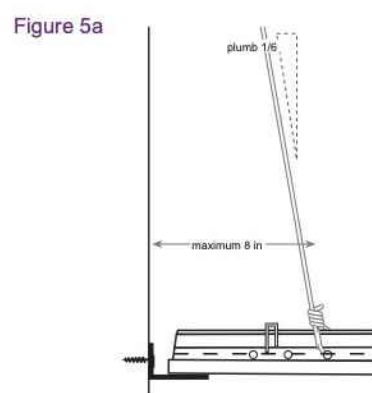

Figure 5b • Countersloping
- Hanger and perimeter wires must be plumb within 1/8 unless (Figure 5a) countersloping wires are provided (Figure 5b). Source: ASTM C636 Section 2.1.4